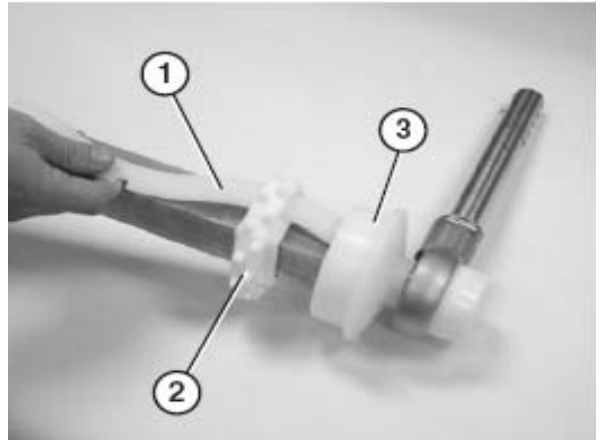

Figure 81
3. Insert the sprocket alignment bar (**Figure 81, item 1**) into the first sprocket (**Figure 81, item 2**) resting it up against the flanged puck (**Figure 81, item 3**). Position the first sprocket with the notch in the sprocket alignment bar.